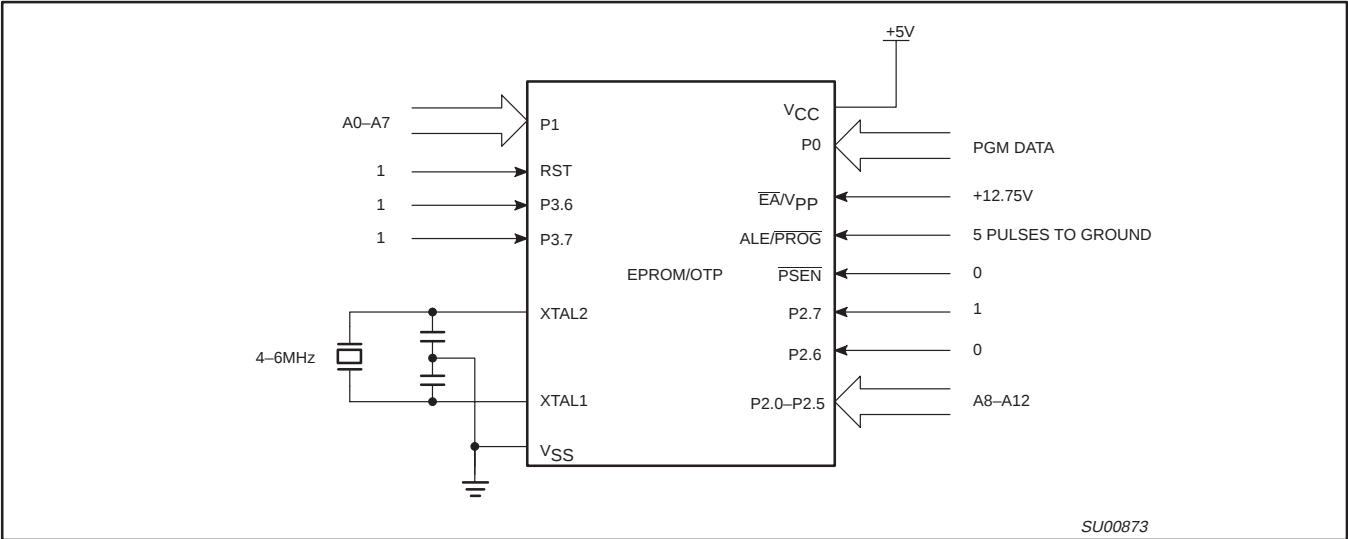
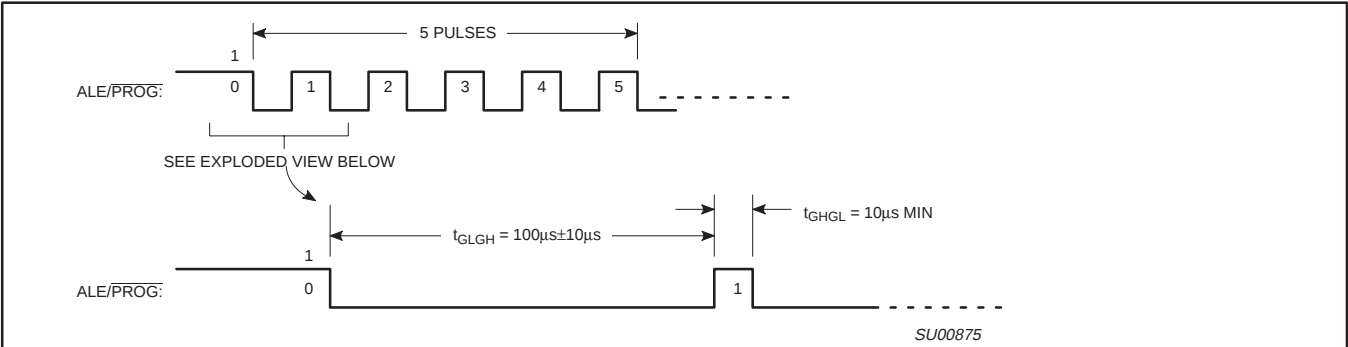
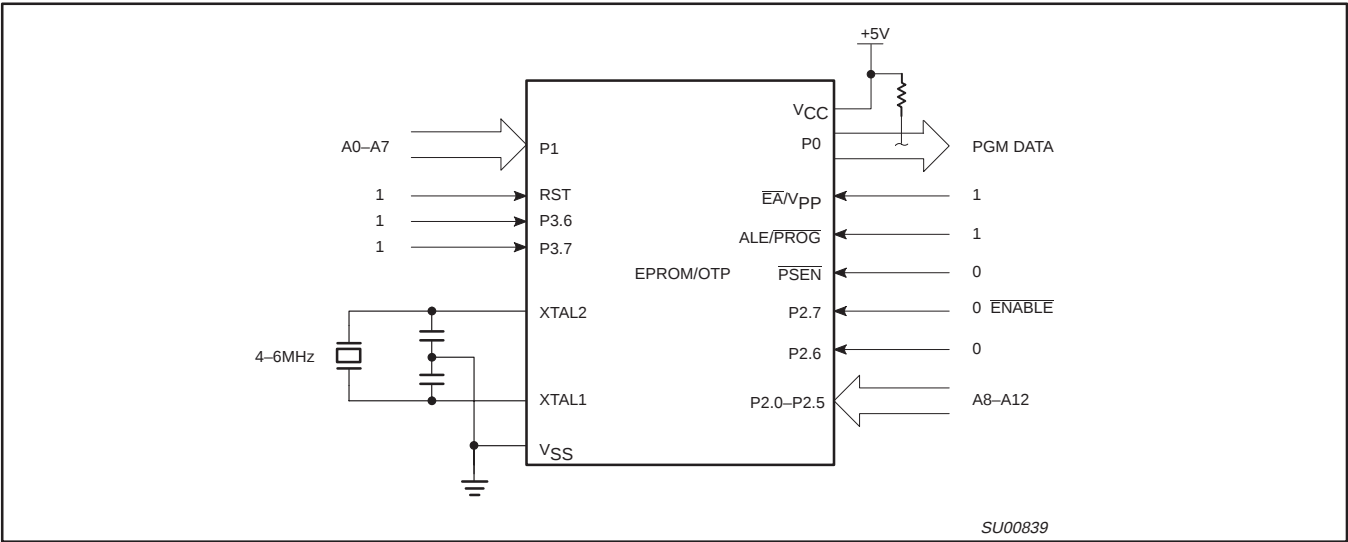

Figure 26. Programming Configuration
Figure 27. PROG Waveform
Figure 28. Program Verification
Table 8 shows the logic levels for reading the signature byte, and for programming the program memory, the encryption table, and the security bits. The circuit configuration and waveforms for quick-pulse programming are shown in Figures 26 and 27. Figure 28 shows the circuit configuration for normal program memory verification.
The setup for microcontroller quick-pulse programming is shown in Figure 26. Note that the device is running with a 4 to 6 MHz oscillator. The reason the oscillator needs to be running is that the device is executing internal address and program data transfers.
The address of the EPROM location to be programmed is applied to ports 1 and 2, as shown in Figure 26. The code byte to be programmed into that location is applied to port 0. RST, $\overline{PSEN}$ and pins of ports 2 and 3 specified in Table 8 are held at the 'Program Code Data' levels indicated in Table 8. The ALE/PROG is pulsed low 5 times as shown in Figure 27.
If security bits 2 and 3 have not been programmed, the on-chip program memory can be read out for program verification. The address of the program memory locations to be read is applied to ports 1 and 2 as shown in Figure 28. The other pins are held at the 'Verify Code Data' levels indicated in Table 8. The contents of the address location will be emitted on port 0. External pull-ups are required on port 0 for this operation.
* FOR PROGRAMMING CONFIGURATION SEE FIGURE 26.
FOR VERIFICATION CONDITIONS SEE FIGURE 28.